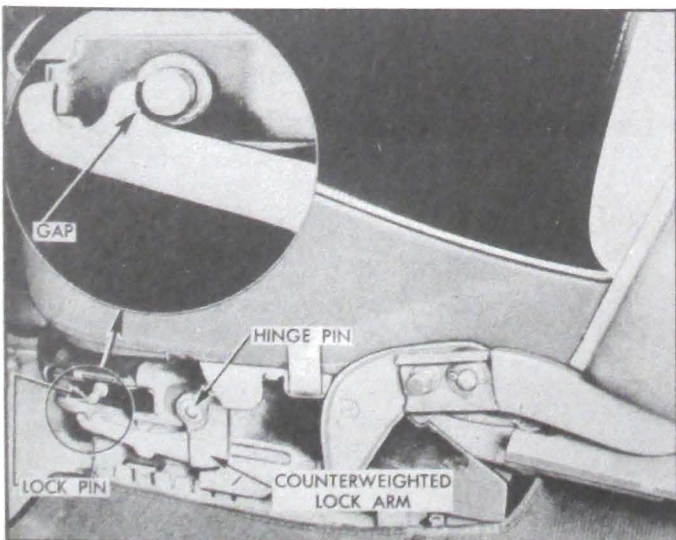

Figure 13-1—Inertia Lock
The seat adjusters are equipped with inertia locks which prevent operation of the seat in case a sudden stop should throw a seat back forward. A sudden stop causes a counterweighted lock arm to swing forward around its hinge pin until the hooked end of arm engages a lock pin, thus preventing movement of the seat assembly. See figure 13-1.
3. With seat backs in full rearward position in contact with the rubber bumpers, raise the inertia lock arm into contact with the lock pin. A gap of $\frac{1}{16}$ " should exist between arm and pin as shown in figure 13-1.